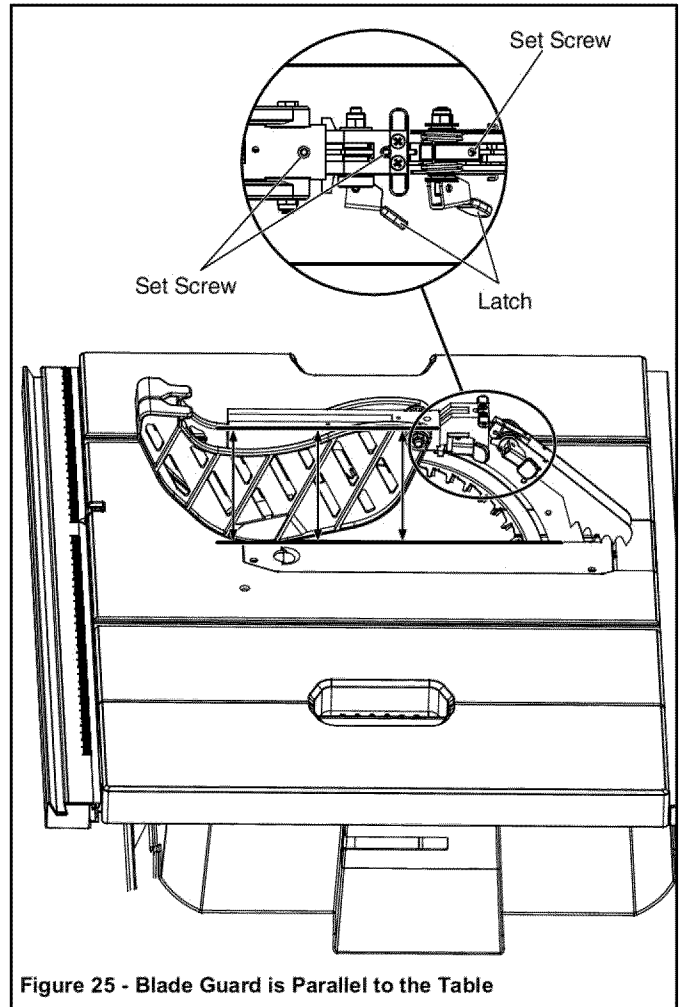

Figure 25 - Blade Guard is Parallel to the Table
**NOTE:** Blade guard body should be parallel to the table. If not, adjust the set screws with 2 mm hex key (not supplied) as necessary. (Refer to figure 25)
**NOTE:** The teeth of anti-kickback pawls should touch table surface. Use set screw with 2 mm hex key (not supplied) to adjust if needed. (Refer to figure 25)